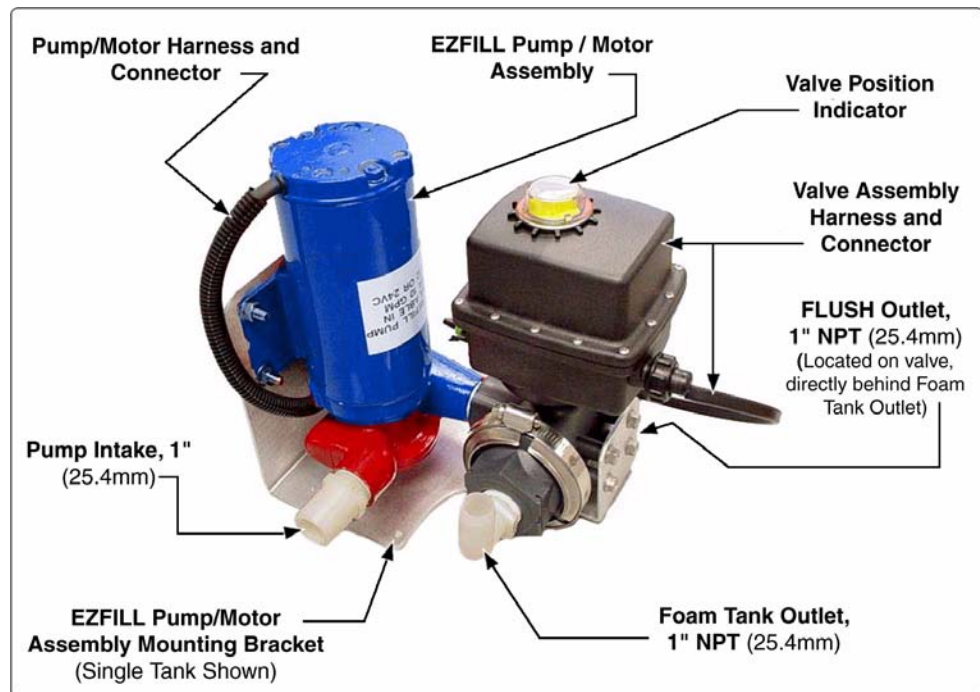

Figure 3-1: Three-Position Valve Plumbing, Single Tank
(See Figure 3-1: 'Three-Position Valve Plumbing, Single Tank.')
6. Connect a hose between the foam tank outlet and the **BOTTOM** of the foam tank (Tank "A"). (See Figure 3-1: 'Three-Position Valve Plumbing, Single Tank' on page 11.)
7. Connect a hose between the **FLUSH** outlet and an appropriate ground container (5 gallon/19 liter bucket). (See Figure 3-1: 'Three-Position Valve Plumbing, Single Tank' on page 11.)